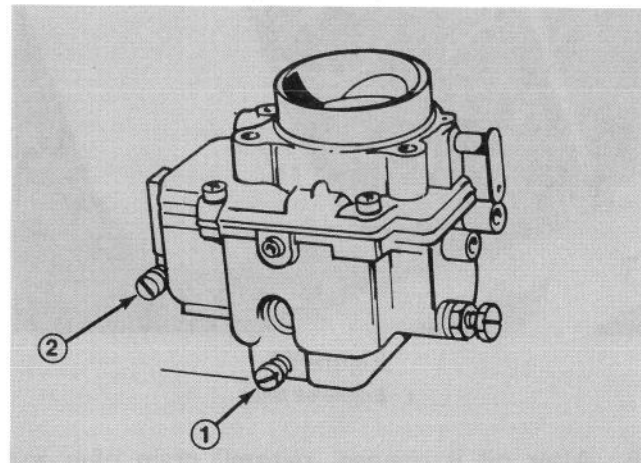

Figure 62
1. Idle Mixture Screw (Fig. 62) — Close idle mixture screw by gently rotating it clockwise.